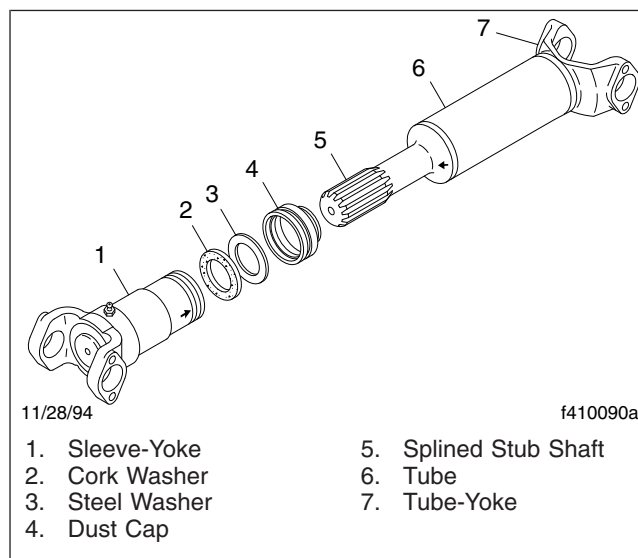

Fig. 3, Slip-Joint Components
1. Place the slip-joint dust cap, and (if so equipped) steel washer and cork seal, over the splined shaft. See Fig. 3.